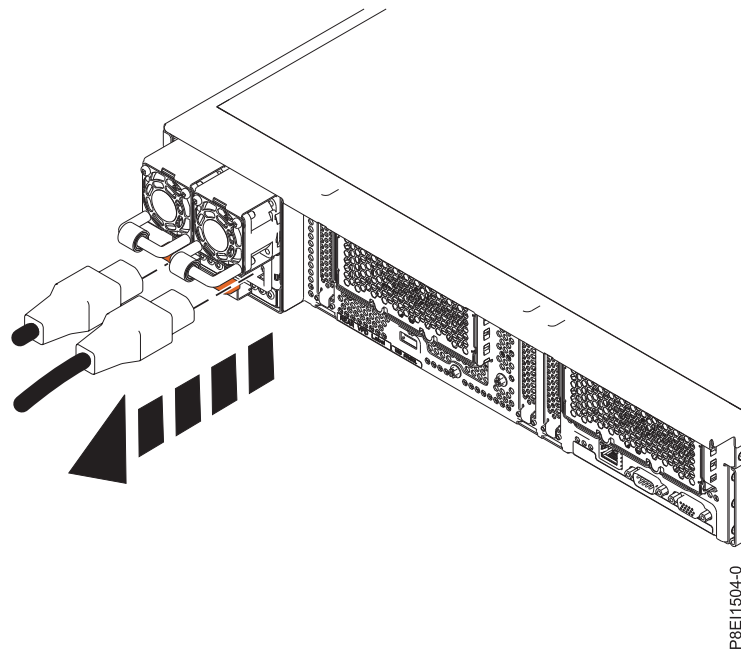

Figure 51. Disconnecting the power cord from the power supply
- a. Label the power cord, and then unstrap the hook-and-loop fastener to release the power cord from the power supply handle. Refer to Figure 51 on page 53.